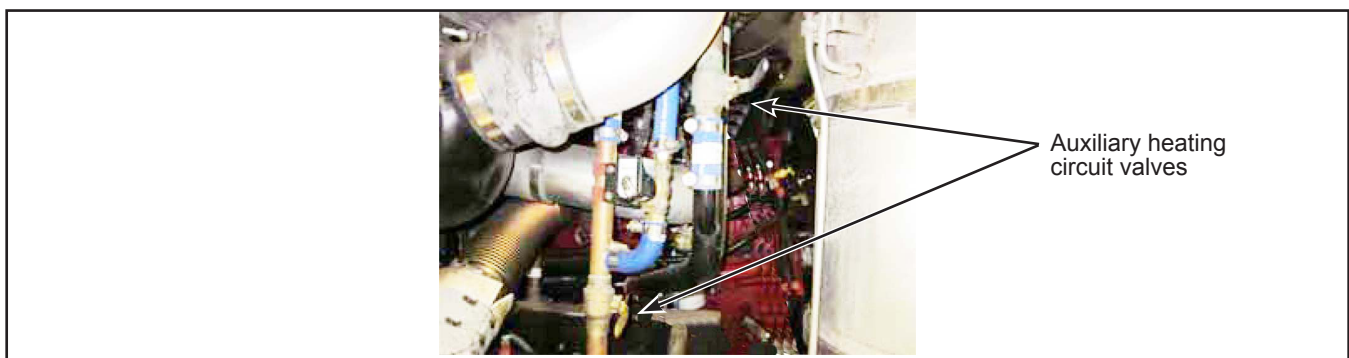

Figure 2 - Engine Compartment Auxiliary Heating Circuit Valves
- 1.4. Close the two auxiliary heating circuit valves. See Figure 2.